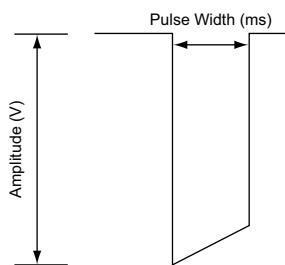

Figure 2-6. Pulse waveform
- The energy delivered to the heart is directly proportional to the pulse width; doubling the Pulse Width doubles the energy delivered. Therefore, programming a shorter pulse width while maintaining an adequate safety margin may increase battery longevity. To prevent loss of capture, exercise caution when you are programming permanent pulse width values of less than 0.3 ms (Figure 2-6 on page 2-10).
The pulse Amplitude, or voltage of the output pulse, is measured at the leading edge of the output pulse (Figure 2-6 on page 2-10).